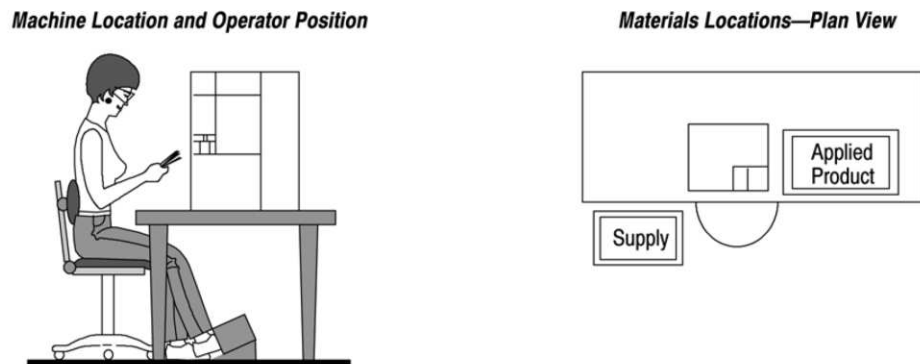

Figure 12
3.3. Considerations Affecting Placement of Bench Machines (Figure 12)
Figure 12 illustrates proper machine location, operator position, and recommended foot switch position.